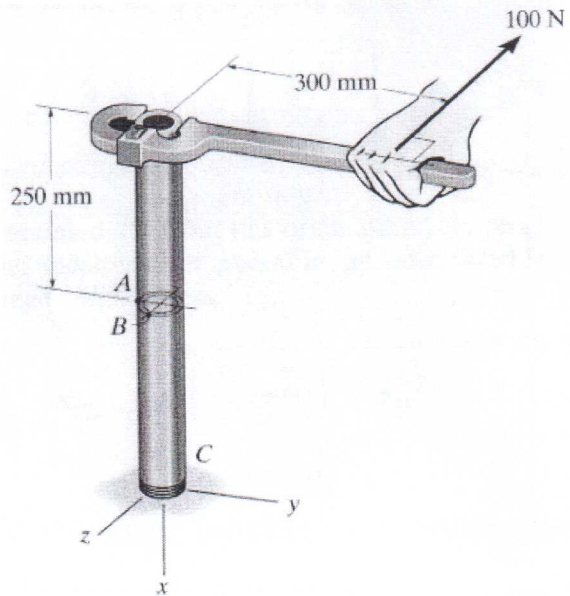

Figure 12.
(12) The steel pipe, shown in Figure 12, has an inner diameter of 68 mm and an outer diameter of 75 mm. If it is fixed at **C** and subjected to the horizontal 100 N force acting on the handle of the pipe wrench at its end, determine the principal stresses in the pipe at points **A** and **B**, which are located on the surface of the pipe.